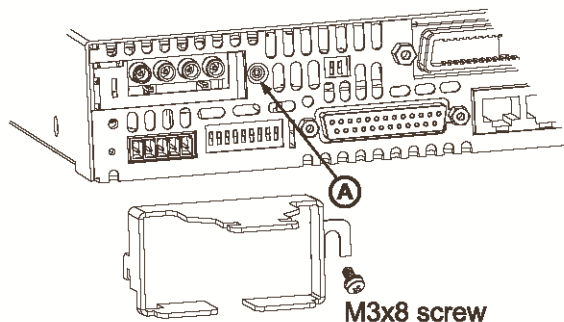

Fig. 3-8: Shield assembly
- d) Loosen the two chassis screws marked "A" halfway as shown in Fig.3-8.
- e) Assemble the protective shield to the chassis and tighten the two screws to fix the shield to the chassis (see Fig.3-8). Screws tightening torque: 4.8-5.3 Lb-inch.